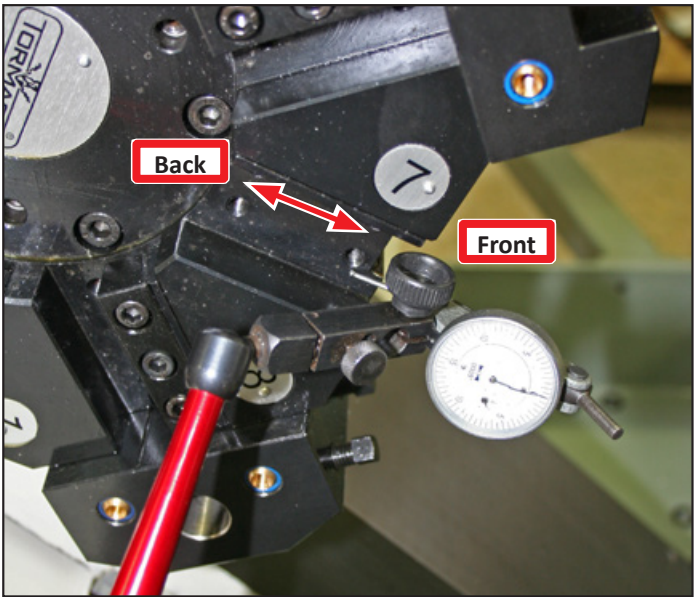

Figure 27
- 3. To make sure that the tool pocket is perpendicular to spindle, jog the X-axis moving dial indicator front to back in the tool pocket (see **Figure 27**).